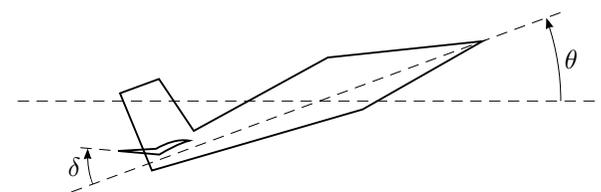

Figure 3.7a
3.7 Consider an aircraft where the pitch angle  $\theta$  is controlled by the elevator deflection (Swedish: *höjdroderutslag*)  $\delta$ , see Figure 3.7a. Let  $\omega$  be the angular velocity,